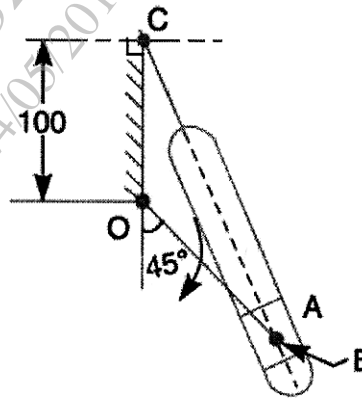

Fig. 3
7. (a) In a Whitworth quick return motion, as shown in Fig. 3,  $OA$  is a crank rotating at 30 rpm in a clockwise direction. The dimensions of various links are :  $OA = 150$  mm,  $OC = 100$  mm. [12]